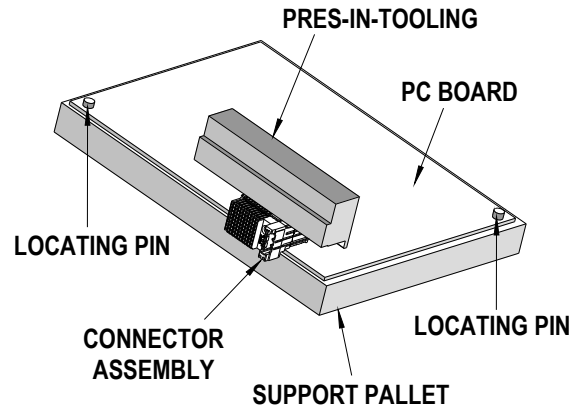

Figure 2-9
4. Position the insertion tooling on the connector assembly. See Figure 2-9.